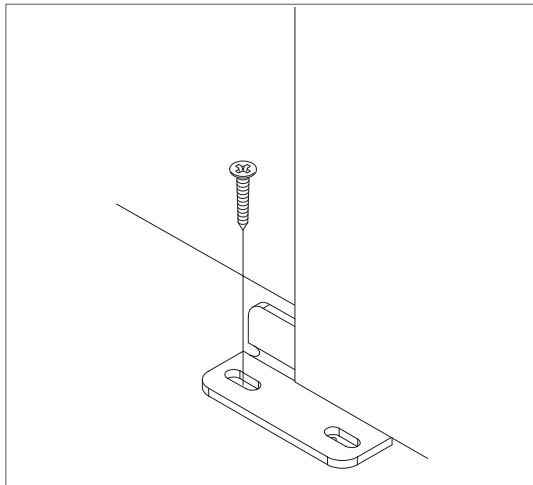

Figure 8
17. Position the Door Guide (G.) part way into the groove in the bottom of the door (Figure 8).